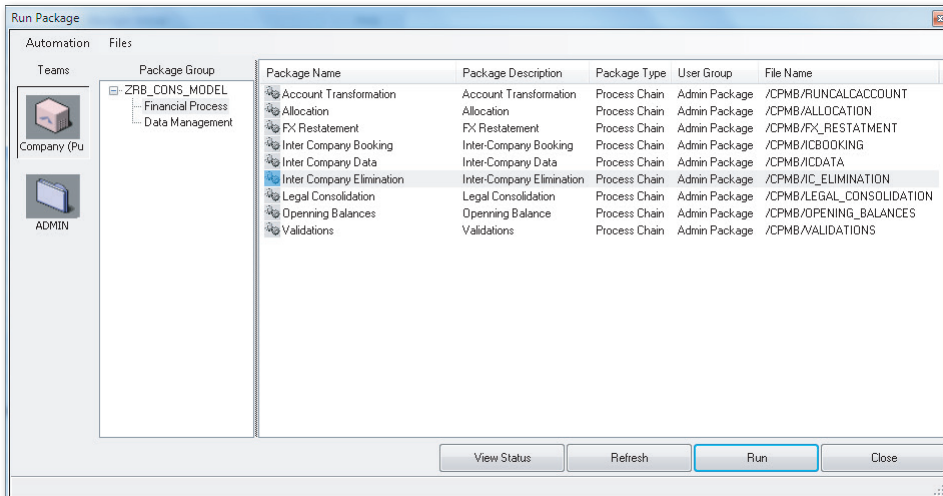

Figure 9.19 Configuring Intercompany Eliminations—Part F
7. Run the data package to execute the INTER COMPANY ELIMINATION script, as shown in Figure 9.19. The process chain associated with the elimination process is /CPMB/IC_ELIMINATION.